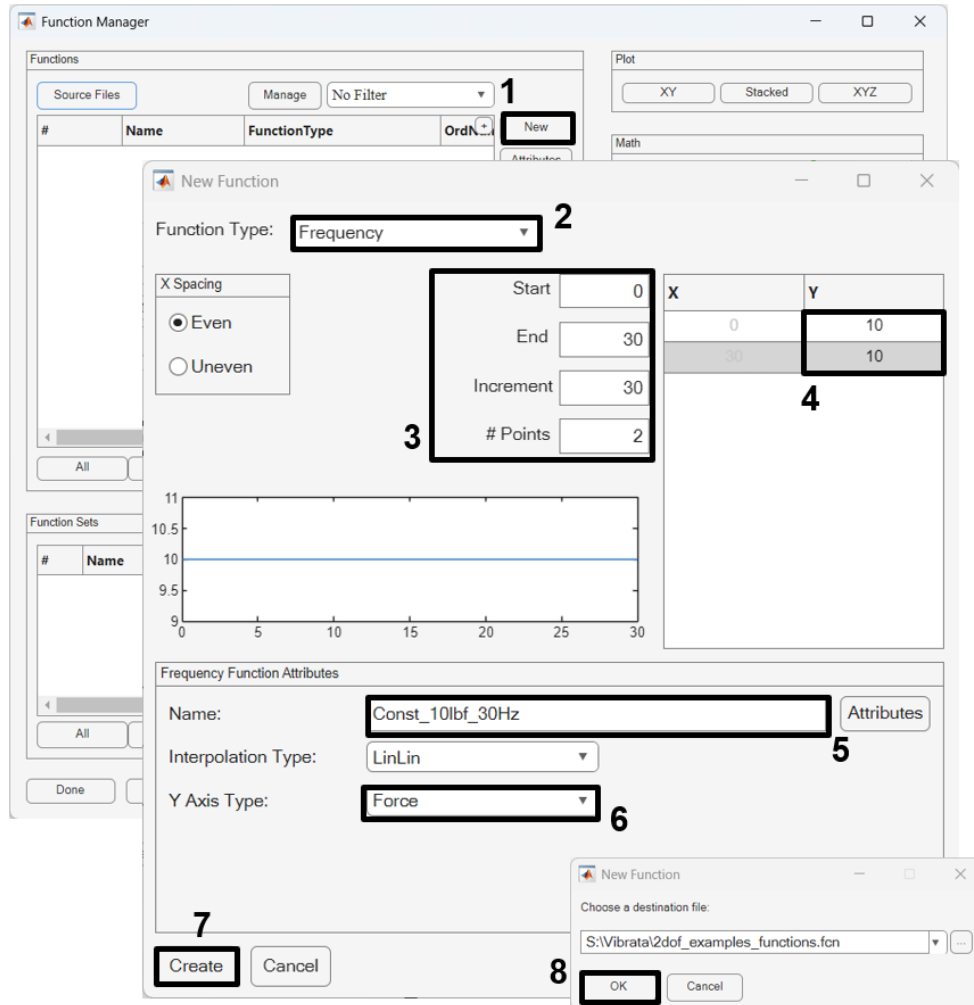

Figure 4-22. Create a new function with a constant 10 lbf amplitude from 0 to 30 Hz.
- c. Create a new frequency function from 0 to 30 Hz with an amplitude of 10. Make sure the *Y Axis Type* is *Force*, and give the function a name that you will be able to recognize later (Figure 4-22).